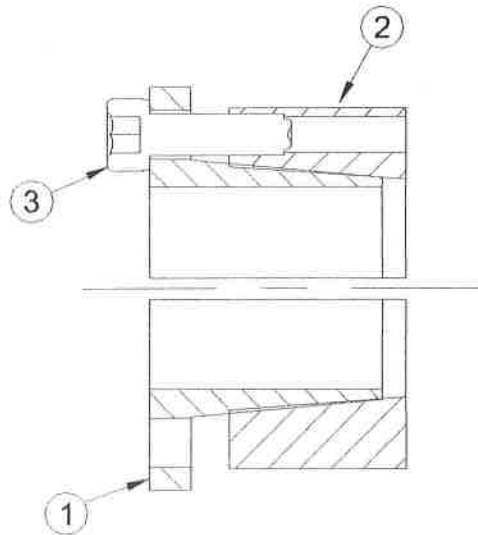

FIGURE 1
Installation of B-LOC™ Locking Assembly Series B-106 (Refer to Figure 1)
- 4B. Hand tighten locking screws and confirm that collar (Item 1, see Figure 1) is parallel and in full contact with face of part to be attached to shaft.